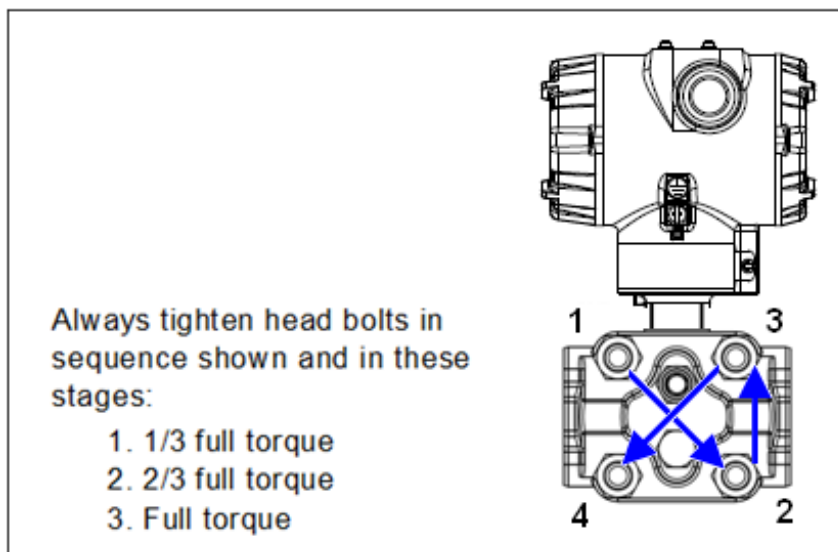

Figure 20 – Head Bolt Tightening Sequence
4. Loosen the nuts in the sequence shown in Figure 20.
12. Using a torque wrench, gradually tighten the nuts in the sequence shown in Figure 20. Tighten head bolts in stages of 1/3-full torque, 2/3-full torque, and full torque. See Table 21 for torque requirements versus Transmitter type and model.